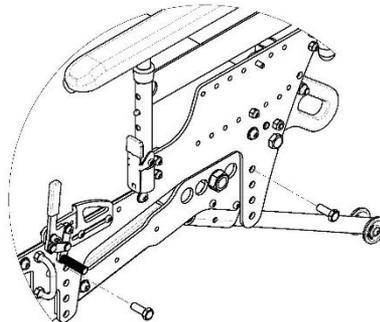

Figure 12.26: Seat Height Adjustment - Fastener installation
1. Remove the bolts and nuts joining the upper and lower frame as shown in Figure 12.26 using two 9/16” wrenches or sockets.